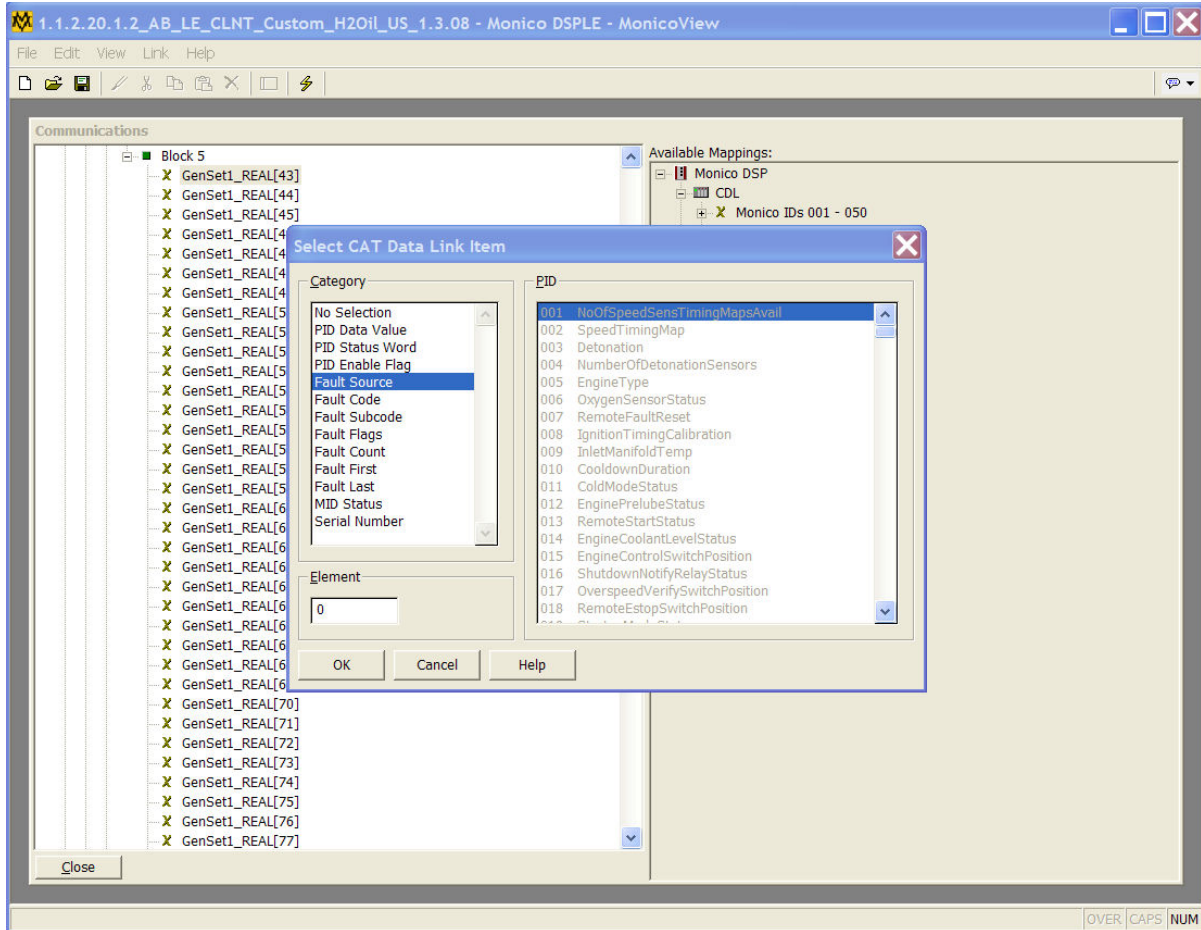

Figure 7.4 Fault Block Creation Example
3. Highlight the first register and double-click on FaultSource on the right-hand side of the screen. The resulting screen will be shown in Figure 7.4.